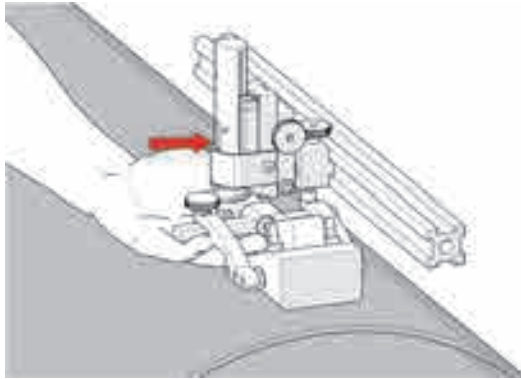
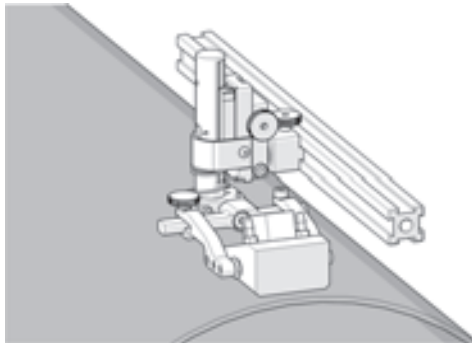

Figure 4-58 Press latch button
Figure 4-59 Lower toward scan surface
3. Lift the yoke slightly and press the latch button (see Figure 4-58 on page 139), then slowly lower it toward scanning surface to apply spring pressure to the wedge (see Figure 4-59 on page 139).